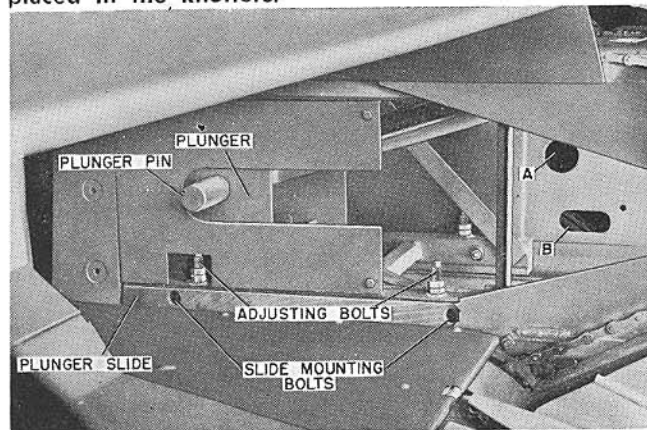

FIGURE 20
2. Loosen the four mounting bolts of the lower slides of the main plunger (see Fig. 20). Tighten the four plunger slide adjusting bolts to the point at which the plunger has a vertical clearance of $1/32''$.
2. Loosen the set screws in the plunger pin bearings, and position the plunger so that the plunger pin can be driven through hole "A" (Figure 20) provided in the side of the bale chamber. Drive the plunger pin from the plunger with a soft punch. Note: If the plunger pin does not move readily, remove the set screws from the plunger pin bearings and apply penetrating oil at these points.